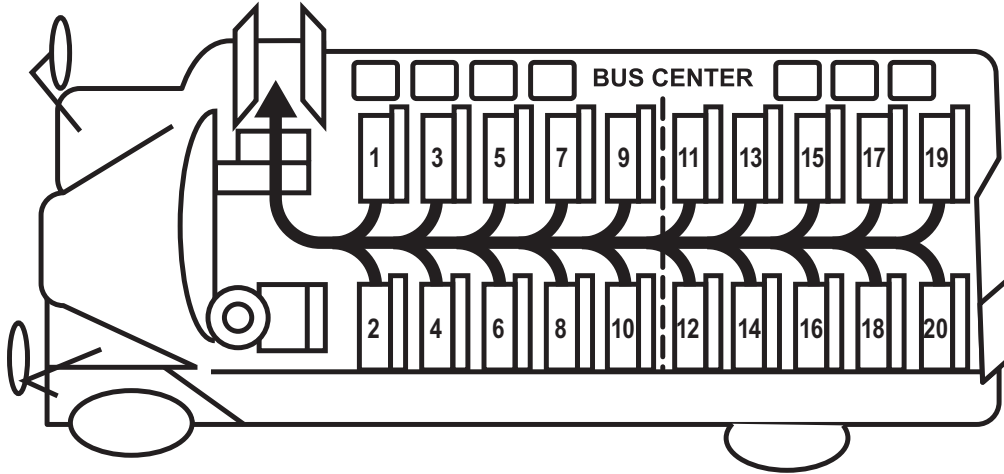

Figure 12-2. Evacuation Order for Front Door Evacuation.
- For a front door exit, students will evacuate in the following order: right front seat, left front seat, and the rest of the seats from right to left until the bus is empty (Figure 12-2).